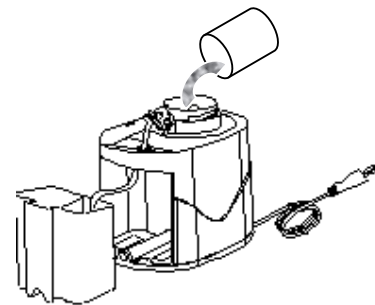

Fig 4
4. Using the included measuring cup, fill the water heater tank with approximately 25ml of tap water. Do not overfill the water above the five square shaped vents on the wall of the water heater tank. **Note:** Do not use anything except water in the water heater tank. See Fig 4.